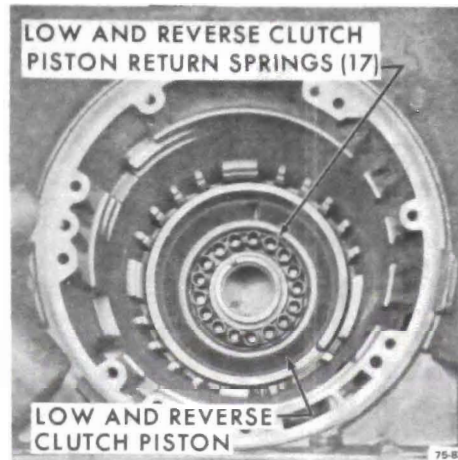

Figure 75-243
4. Install seventeen (17) piston return (coil) springs. See Figure 75-243.